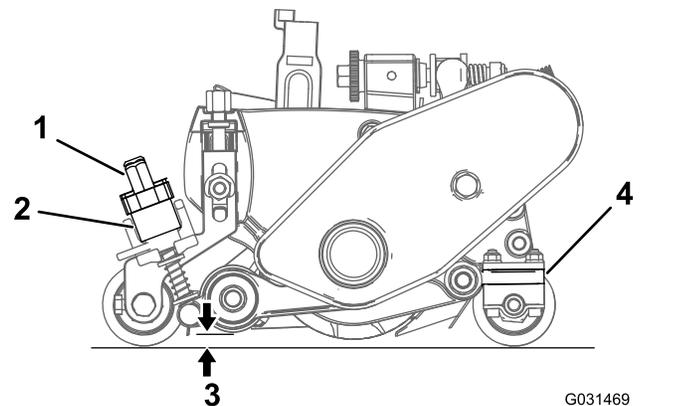

Figure 24
- A. Rotate the quick-up levers (Figure 24) to the OPERATING position (the handle points toward the front of the cutting unit).
- B. At the end of the groomer reel, measure the distance from the lowest tip of the groomer blade to the working surface (Figure 24). Turn the height-adjuster knob (Figure 24) to raise or lower the tip of the groomer blade to the desired height.